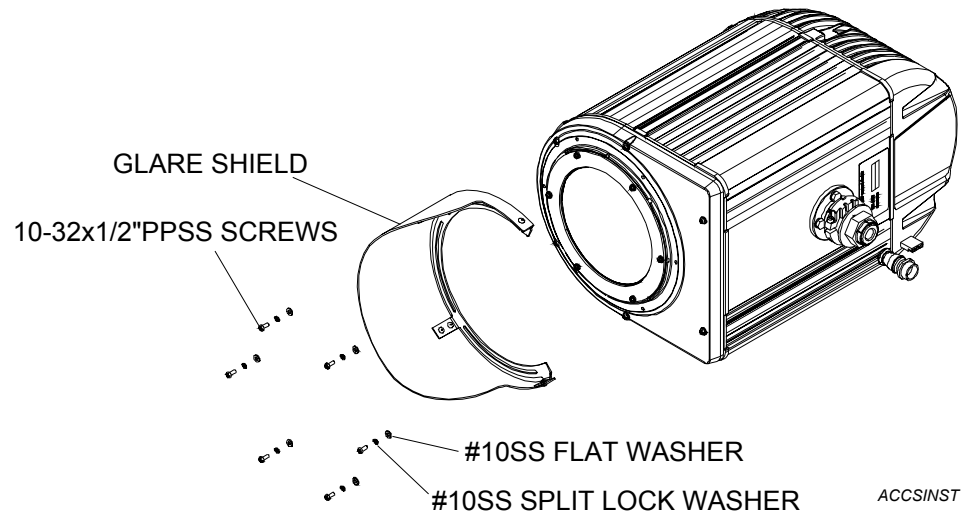

Figure 7.13 - Glare Shield Installation
1. At front casting accessory screw pattern, remove six 10-32x1/2"PPSS screws, #10SS split lock washers, and #10SS flat washers (Figure 7.13).